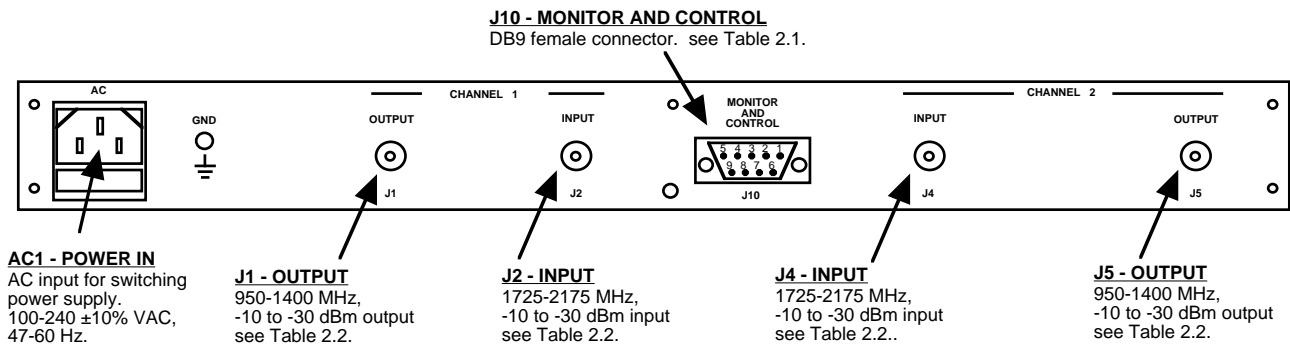

FIGURE 2.1 2083-2215 Rear Panel I/O's
Figure 2.1 shows the input and output connectors on the rear panel.
1. Connect a -30 dBm to -10 dBm signal to IN, J4 (Figure 2.1)